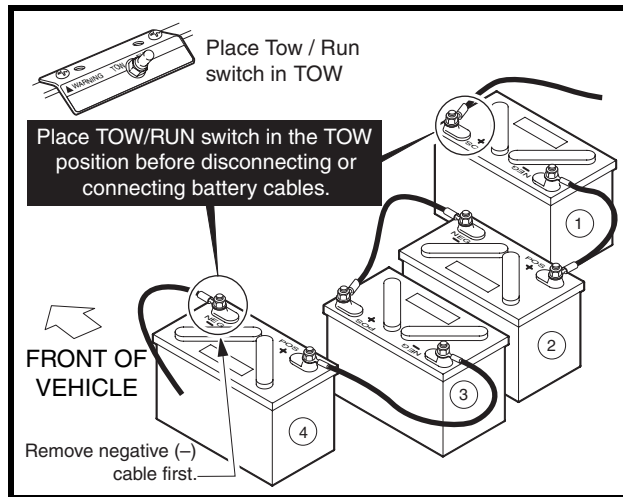

Figure 20-1 Electric Vehicle Battery Configuration
4. Install batteries in the proper orientation (**Figure 20-1, Page 20-2**). Install battery hold-downs. The hold-downs should be tight enough so batteries do not move while vehicle is in motion, but not so tight as to crack or buckle battery case. Tighten to 97.4 in-lb (11 N·m), alternating between hold-down bolts.
5. Install wires in proper sequence (**Figure 20-1, Page 20-2**). Install black wire to negative post of battery no. 4 last. Make sure all connections are tight. Tighten to 110 in-lb (12.4 N·m). Coat all terminals with Battery Terminal Protector Spray (CCI P/N 1014305) to minimize future corrosion.
When the batteries are fully charged, disconnect the charger DC plug. Wait 20 to 30 seconds and reconnect the DC plug to restart the charger. After 5 minutes, use a multimeter to check and record the voltage of the battery set as well as the individual batteries. Set the multimeter to 200 volts DC. Place the red (+) probe on the positive (+) post of battery no. 1 and the black (-) probe on the negative (-) post of battery no. 4 (**Figure 20-1, Page 20-2**). Record reading. Then set multimeter to 20 volts DC and place the red (+) probe on the positive (+) post and the black (-) probe at the negative (-) post of each battery. Record the readings.